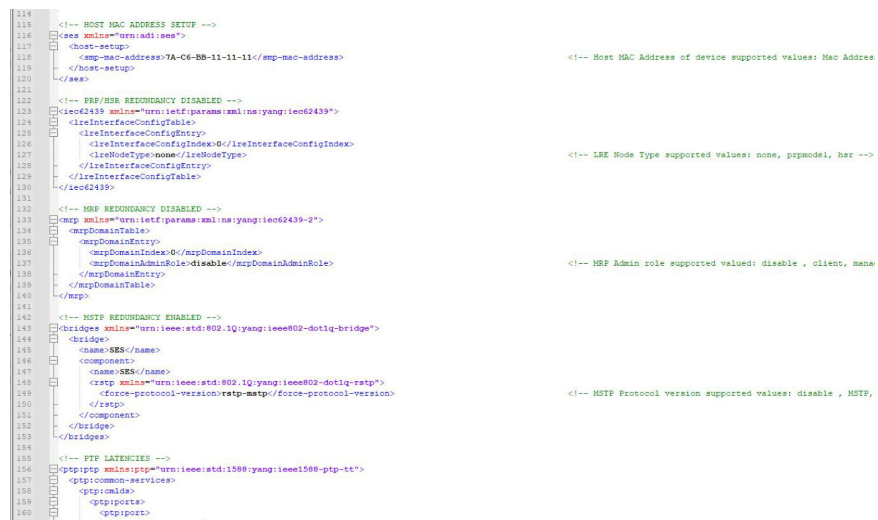

Figure 19. Device MAC Address, Redundancy Configuration, MSTP, PTP/PHY Latency
- Device:** Configuration specifics such as device MAC Address, what redundancy capability is enabled and PHY latencies for PTP stack are passed next. See Figure 19.